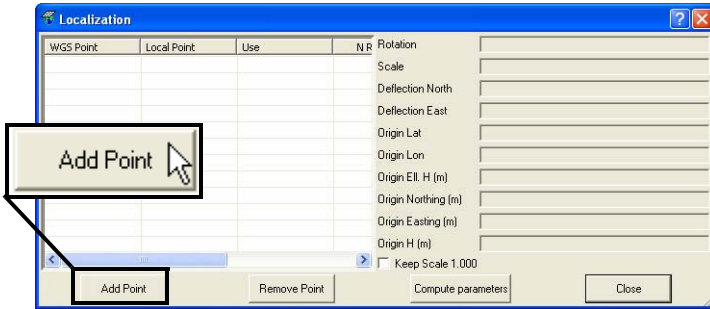

Figure 6-41. Add Point to Localize
- To perform localization using these two sets of coordinates, click **Process ▶ Localization** or press **Shift+F8** to open the *Localization* dialog box. Click **Add Point** (Figure 6-41).